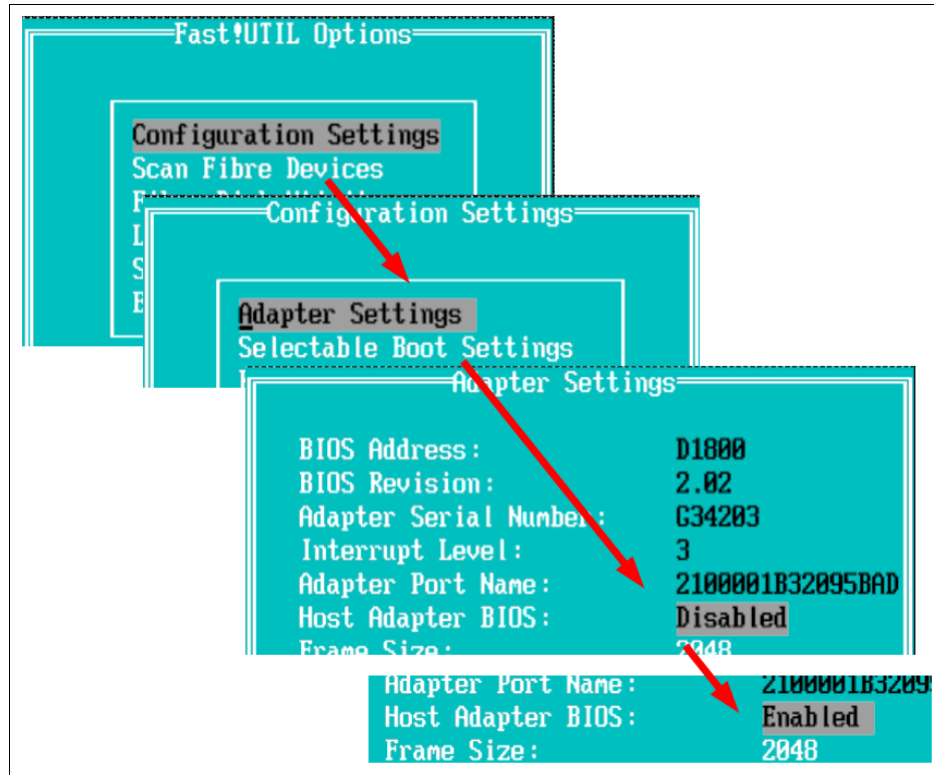

Figure 2-3 Enabling the QLogic HBA BIOS extension
3. In the main Fast!UTIL Options panel (upper panel of Figure 2-3), leave the cursor on **Configuration Settings** (default), and press Enter.
4. In the Configuration Settings panel (middle panel of Figure 2-3), leave the cursor on **Adapter Settings** (default) and press Enter.
5. In the Adapter Settings panel (bottom panel of Figure 2-3) for Host Adapter BIOS, select **Enabled** and then press Enter.
6. In the Adapter Settings panel (bottom panel of Figure 2-3) for Host Adapter BIOS, select **Enabled** and then press Enter.